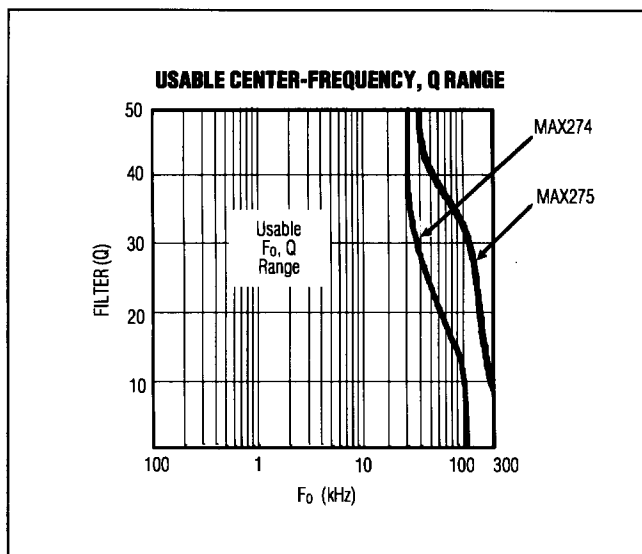

Figure 4. Usable  $F_o$ ,  $Q$  Range. See Translating  $F_o/Q$  Pairs into Hardware (Resistor Selection).
**1. Check all  $F_o/Q$  pairs for realizability.** The MAX274/MAX275 have limits on which  $F_o/Q$  values can be implemented. These limits are bound by finite amplifier gain-bandwidth and amplifier load drive capability (which limit the highest frequency  $F_o$ /highest  $Q_s$ ) as well as amplifier noise pickup and susceptibility to errors caused by stray capacitance (which sets a low-frequency limit on the poles). Refer to Figure 4 to be sure each  $F_o/Q$  pair is within the "realizable" portion of the graph. If filter  $Q_s$  are too high, reduce them by increasing the filter order (that is, increase the number of poles in the overall filter).
High-frequency  $F_o$ s (up to 400kHz) and high  $Q$ s outside of Figure 4's limits are also realizable, but  $F_o$  and  $Q$  will deviate significantly from the ideal. Adjust resistor values by prototyping.